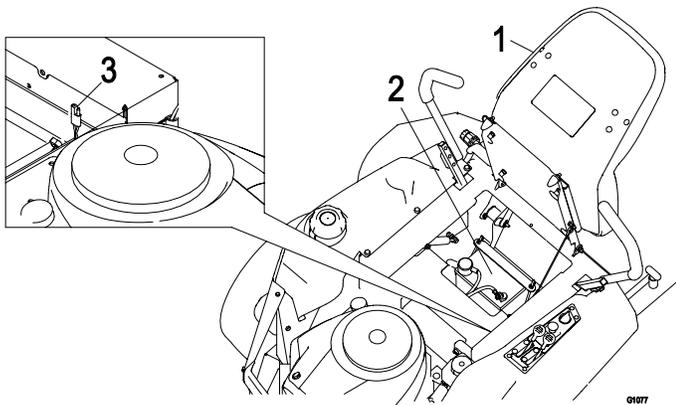

Figure 19
1. The battery is located under the seat. To access, raise the seat (Figure 19).